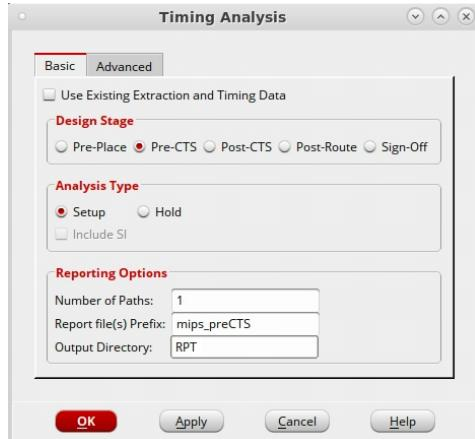

Figure 20: Timing analysis settings.
3. Keep the same settings as depicted in Fig. 20. Especially, keep the *Pre-CTS* box checked since we want to get the timing before the *CTS* step.